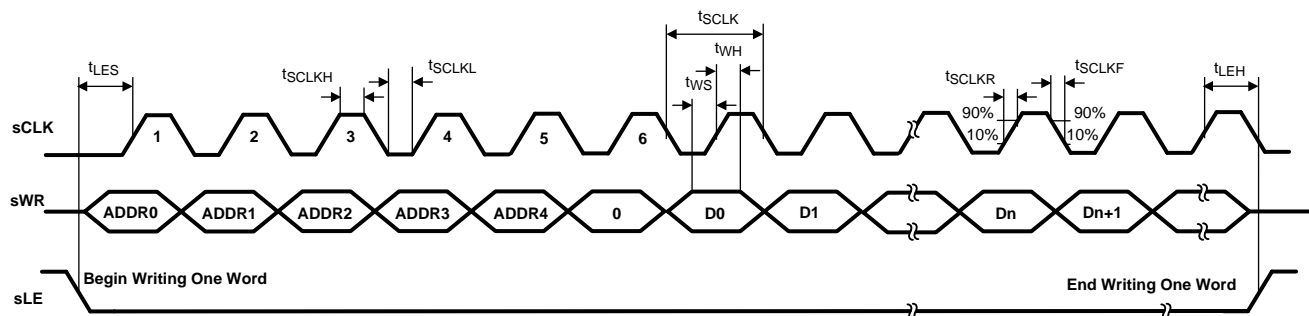

Figure 3. 4-Wire Serial Interface WRITE Timing
The pulse patterns and delay settings can be programmed into and read out from the individual channel controls via a four-wire serial interface. When the Latch Enable signal (sLE) is low, the targeted on-chip registers can be written through the serial data Write pin (sWR) at the positive clock edge (sCLK). In the same way, they can also be read out through the serial data Read pin (sRD). The writing and reading operations have the same timing requirements, which are shown in Figure 3 and Figure 4. The serial data stream starts with a 6-bit address, in which the first 5-bits identify the mode of updating which is interpreted by the Finite State Machine (FSM), and the sixth bit of the address indicates the 4-wire serial operation, either "WRITE" (0) or "READ" (1). The address is followed by the data word, whose length can vary from 8 bits to 64 bits. The data stream starts with the LSB and ends with the MSB. The first 5-bit address indicates which of the 27 registers is being accessed. The register map is shown in Table 4. In each 4-wire serial operation, only one register can be written to or read from at a time. TX_EN must be inactive during 4-wire serial interface operation.